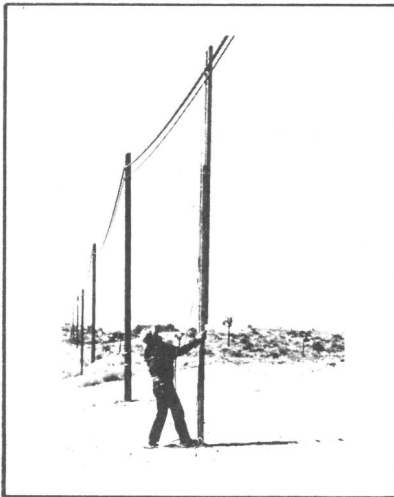

FIGURE 27.
17.08 Continue pulling the free end of the handline until the ladder is in a vertical position under the strand as shown in Figure 27.
17.09 As mentioned in paragraph 17.04, if the ladder base was not placed under the strand, the base should be moved directly under the strand. To do this, tie the free end of the handline to a ladder rung with a clove hitch and two half-hitches and move the base of the ladder in position under the strand. Untie the free end of the handline and pull on the handline until the ladder is vertical as shown in Figure 27.